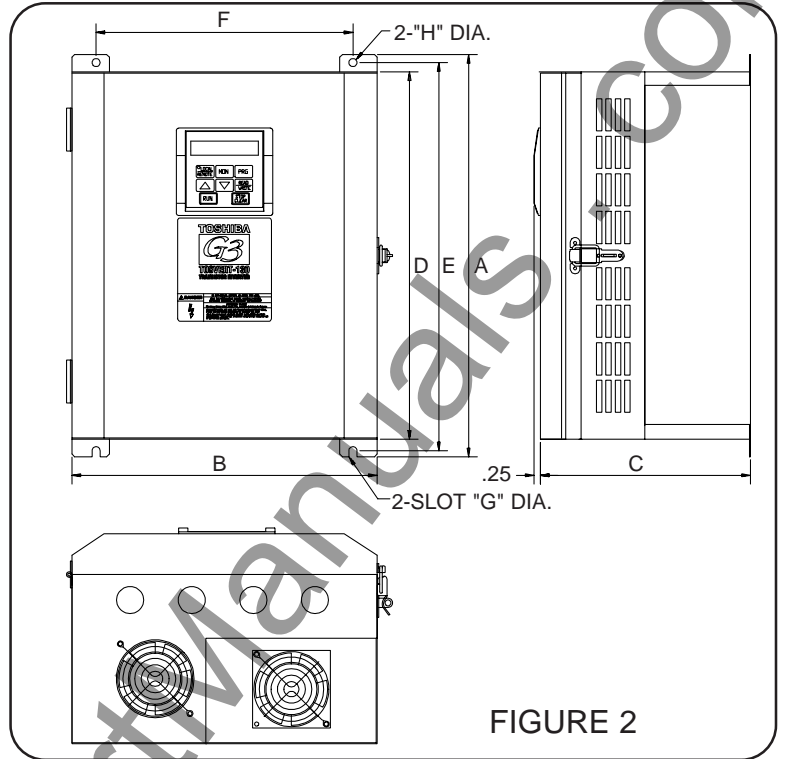

FIGURE 2
- 2) NEMA 12 chassis available for FIGURE 2 drives only. NEMA 1 and NEMA 12 dimensions are the same